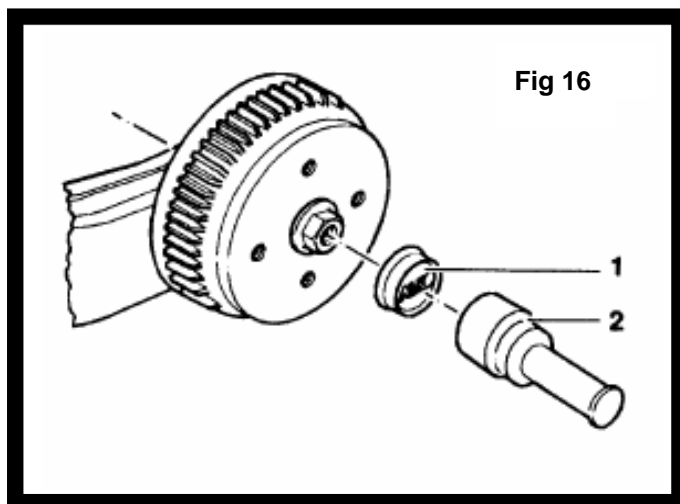

Fig 16
- Knock cap (1) with a hammer and a blunt chisel from below. When reinstalling, use a new cap (1) and locate using a former (2) (Fig 16).